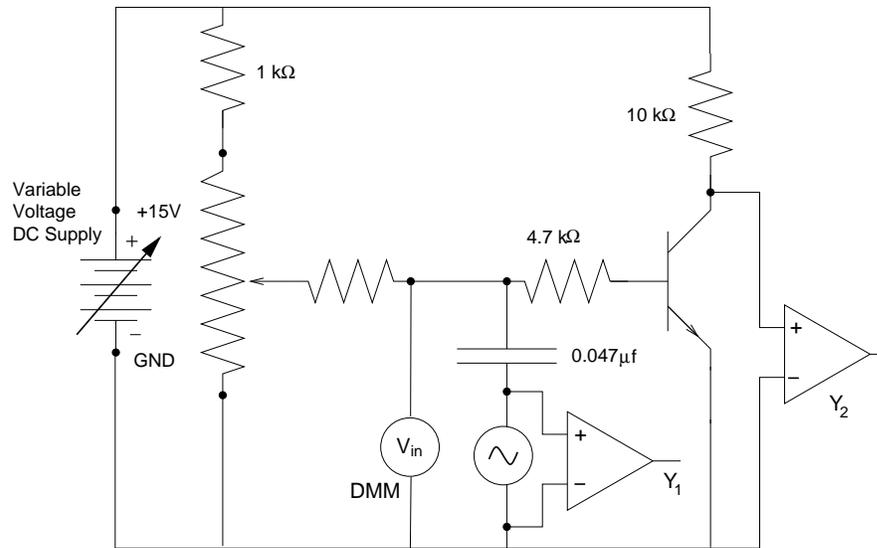

Figure 4
4. *Distortion effects when amplifier is overdriven*: Set up the circuit plug board as in Fig. 4. Connect Y₁ and Y₂ to the scope. To connect the signal generator to the board, use the BNC to banana plug adapter and remember that the side with the bump goes to ground.